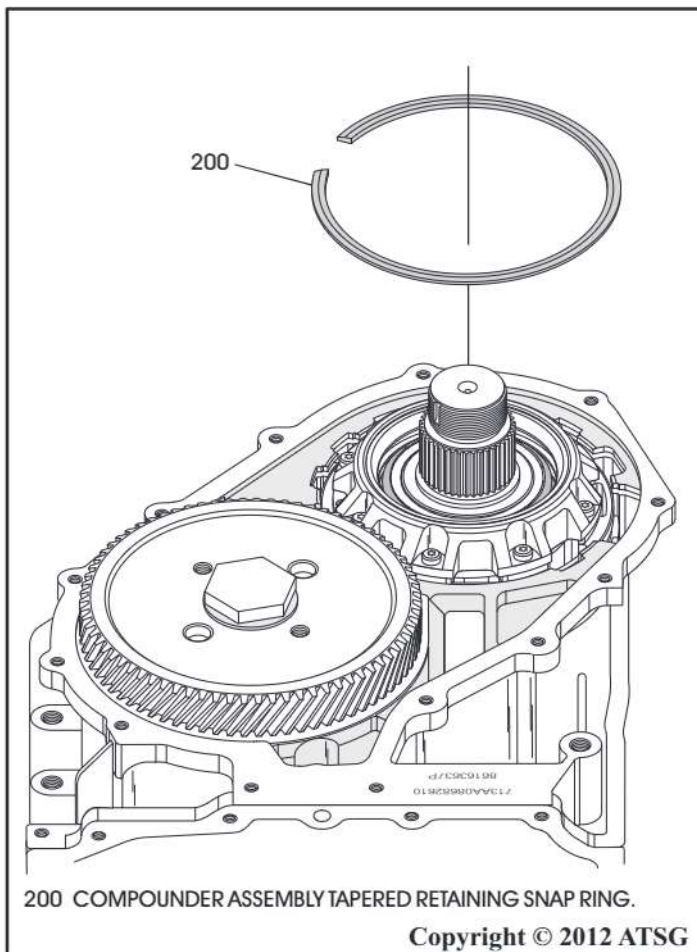

Figure 234
11. Install the tapered snap ring that retains the compounder assembly in the case, as shown in Figure 234, with the taper facing up.